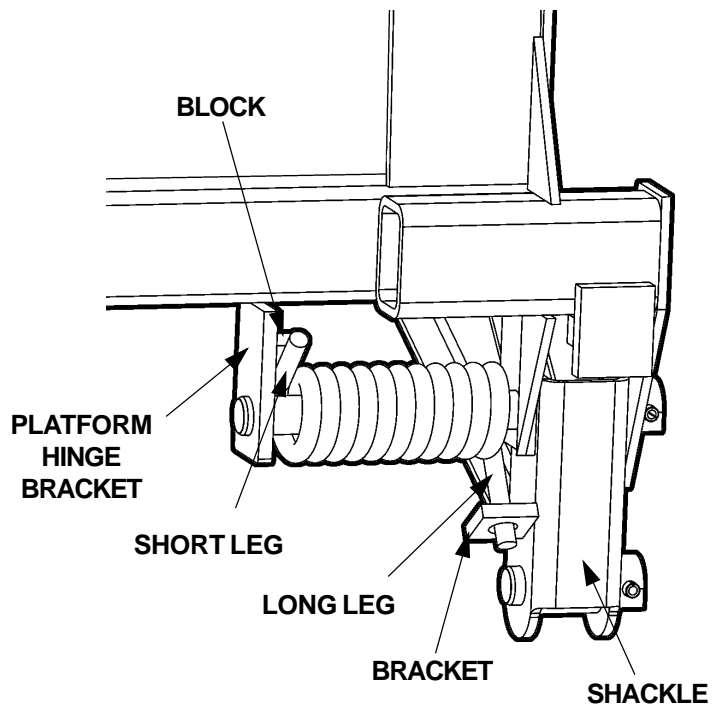

FIG. 5
4. Install the Torsion Spring as shown in (**FIG. 5**). Make sure the long leg of the spring is inserted in the bracket located on the Shackle. Make sure the short end of the spring is visible and resting against the block on the Platform Hinge Bracket (**FIG. 5**).